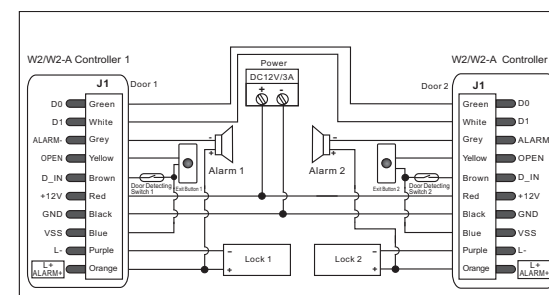

Figure 5
The connection diagram is as Figure 5. Door 1 with one W2/W2-A, and Door 2 with one W2/W2-A, set one W2/W2-A on Door 1 as the Anti-passback Auxiliary unit, and set the other W2/W2-A on Door 2 as the Anti-passback Master unit. They build up a two doors Anti-passback system, which is normally used for parking lot.....etc.
11.8 Interconnected & interlocked for 2 doors only available for W2 (Set as function 5.6.2 door detecting switch must be on) in this mode, two W2/W2-A units are used for 2 doors which are interconnected and interlocked, when door 1 is open, door 2 cannot be opened, When door 1 is closed door 2 can be opened by reading valid card and vice versa. The interlocked function is mainly used in banks, prisons, and other places where a higher level of security is required. See figure 5.